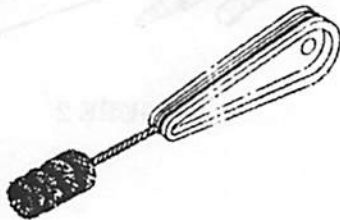

FIGURE 5
•You should have an assortment of wire brushes (fig. 5) to be used to clean the joints that are to be brazed.